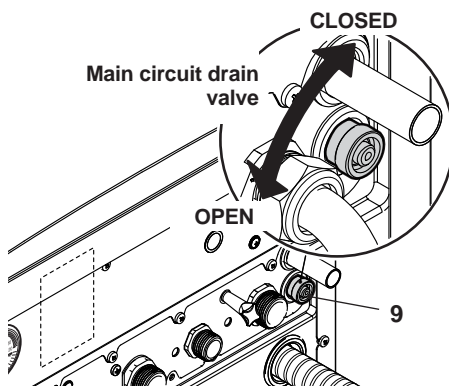

Fig. 9.5
- Loosen the central heating drain cock 9 indicated in Fig. 9.5.